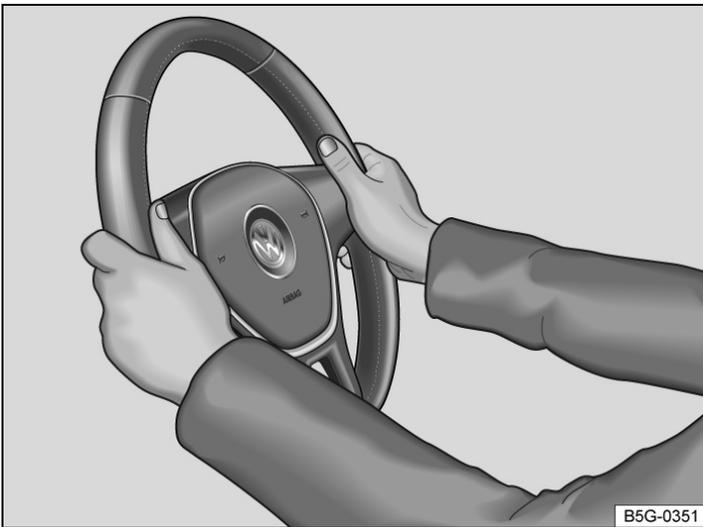

Fig. 2 On the steering wheel: 9 o'clock and 3 o'clock position.
— Adjust the steering wheel so that you can hold it with both hands at its outer edge at the 9 o'clock and 3 o'clock positions with your arms slightly bent → Fig. 2.
- While driving, always keep both hands on the outside of the steering wheel at the 9 o'clock and 3 o'clock positions → Fig. 2. This reduces the risk of injury if the driver front airbag is triggered.